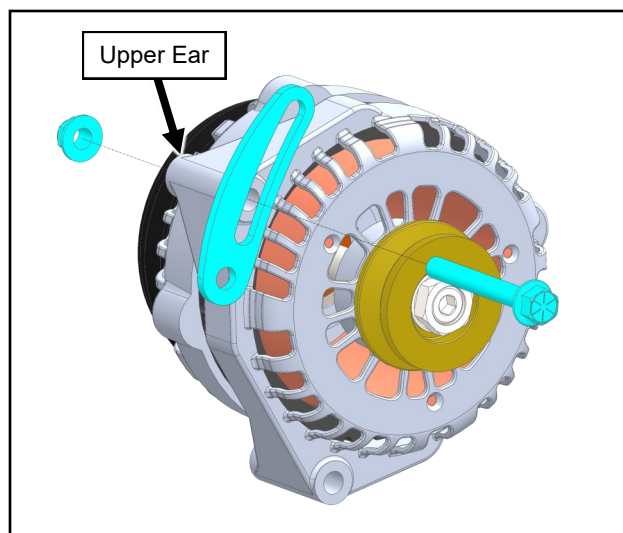

Fig. 3.6 (Install Adjustment Bracket onto Alternator)
- 3.6 Install alternator adjustment plate to upper ear of the alternator per Figure 3.6. Leave bolt finger tight.